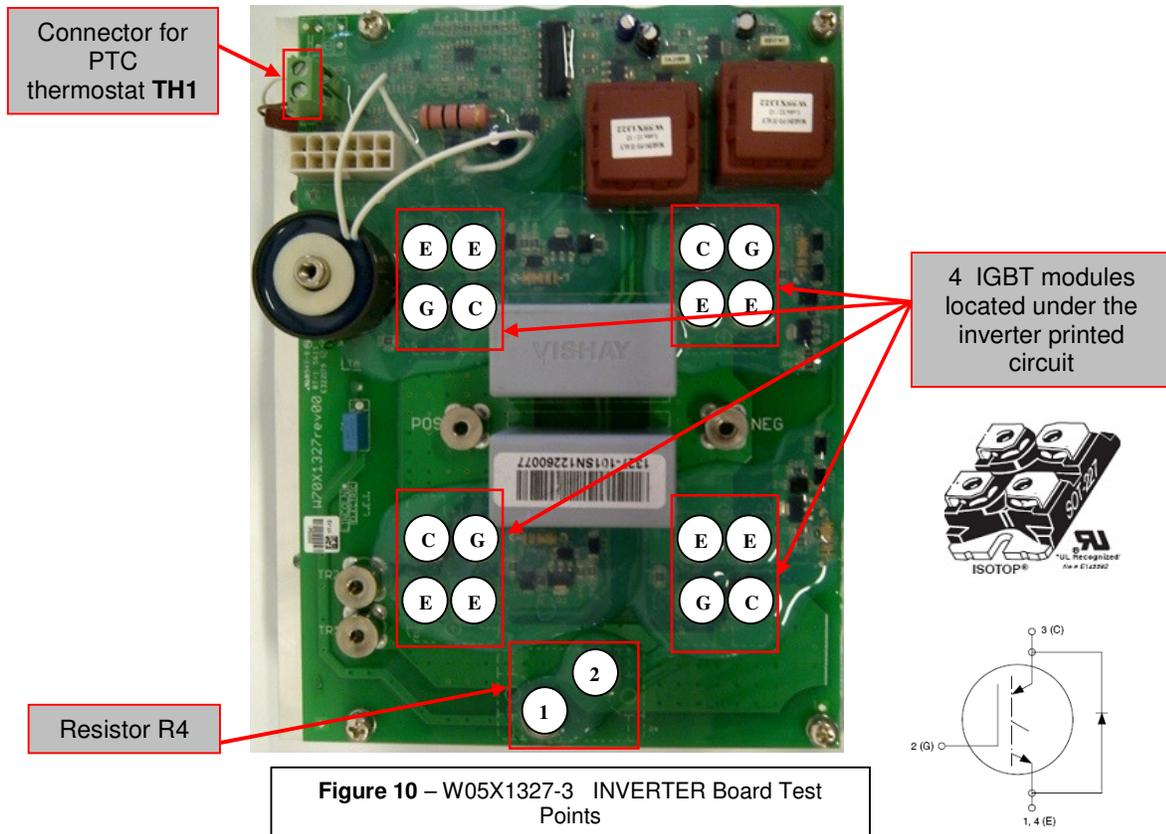

Figure 10 – W05X1327-3 INVERTER Board Test Points
4. Check the PTC thermostat **TH1**, connected to the green connector (See **Figure 10** for Test Point locations.), with ohmmeter; correct value should be 53 ohms +/- 20% @ 25°C
5. Check the resistor **R4** between points 1&2 (See **Figure 10** for Test Point locations.), correct value should be 100 ohms +/-20%, when inverter is fully connected to the machine harnesses.
6. Check each IGBT module (**Q1,Q2,Q7,Q8**), with multimeter in diode test mode (See **Figure 10** for Test Point locations.), following the table below: